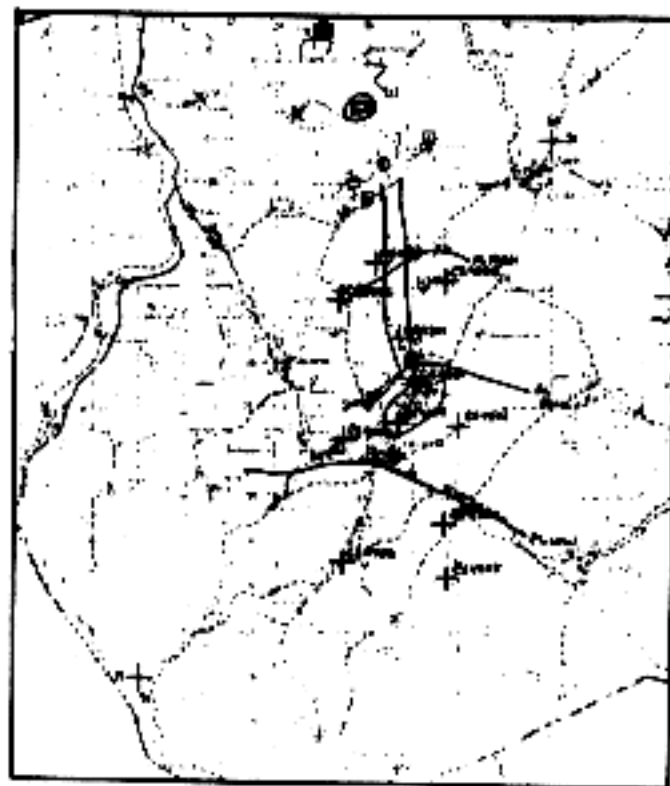

Figure 3-11. First Target Overlay.
c. The First Target Overlay (figure 3-11) shows the fires planned to the left, right, on the objective to cut off escape and reinforcement routes. This overlay is superimposed on the Operations Overlay. First Target Overlays should be kept as sterile as possible for tactical and patrolling missions.